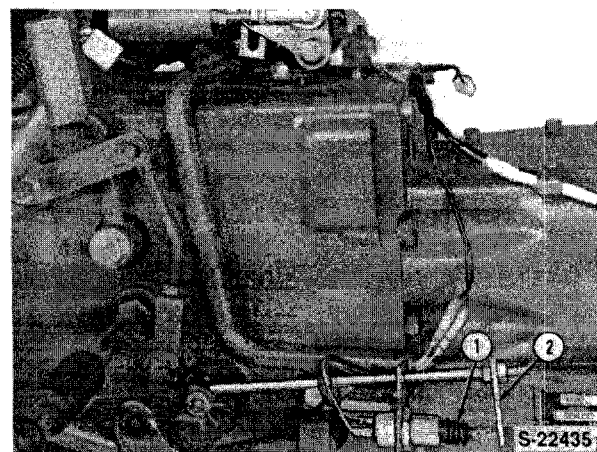

Figure 63
Reference — Figure 63
Install the switch assembly and adjust the lock-nuts so that the lock plate (2), Figure 63 opens the switch circuit when the clutch pedal is fully depressed. See ADJUSTMENT AND INSPECTION below.